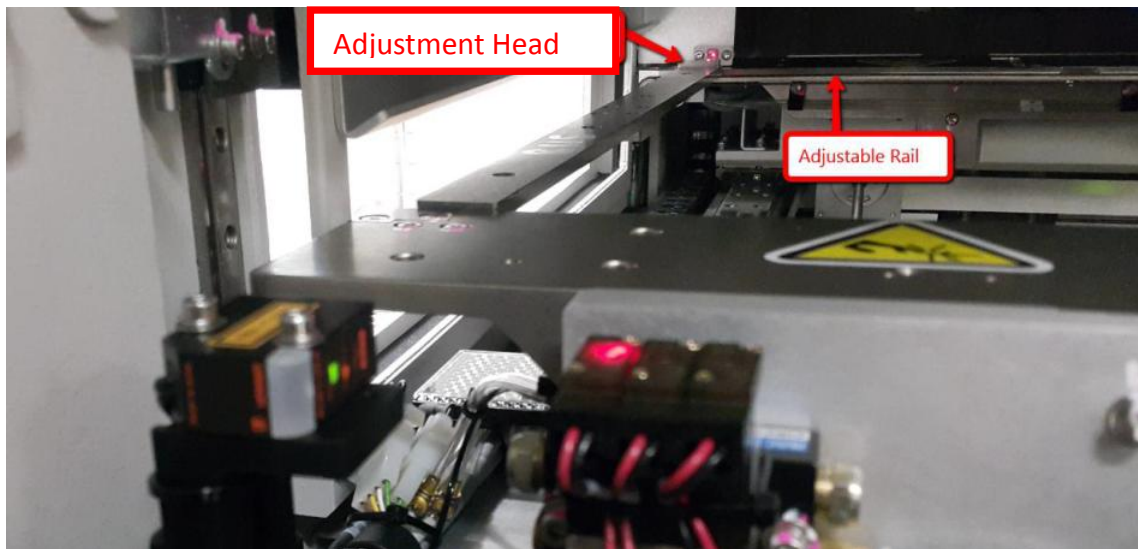

Figure 23 Adjustment Head
11. Rotate the filter height jig where adjustment head require next to Adjustable Rail as Figure 23